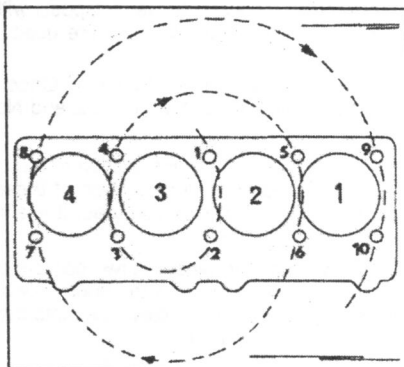

Fig. 1.43. — The tightening sequence for the cylinder head bolts. Valid for all engines.
The cylinder head bolts are now tightened in the sequence shown in Fig. 1.43.
- Slacken all bolts in the reverse order to the one shown in Fig. 1.43 and re-tighten them in the order 1 to 10 to 2.0 kgm (14.5 ft.lb.).
- Slacken all cylinder head bolts in the reverse order to the one shown in Fig. 1.43 and tighten them in numerical sequence to 2.0 kgm (14.5 ft.lb.).
- Tighten the remaining cylinder head bolts in the order shown in Fig. 1.43. *Read the not above if you have omitted one of the bolts during the angle-tightening.*
- Tighten the bolts in the order shown in Fig. 1.43 to 6.0 kgm (43.5 ft.lb.). Only use a "Torx 55" insert to prevent damage to the bolt heads. "Torx" socket inserts are available in sets containing various sizes, but make sure a "55" is included.
After the vehicle has been driven with the new cylinder head gasket approx. 1300 miles, slacken each bolt in the order shown in Fig. 1.43 (never more than one bolt at a time) and re-tighten it immediately to 2.0 kgm (14.5 ft.lb.).
- Re-tighten each bolt in the order shown in Fig. 1.43 by a quarter of a turn, as described for this engine.